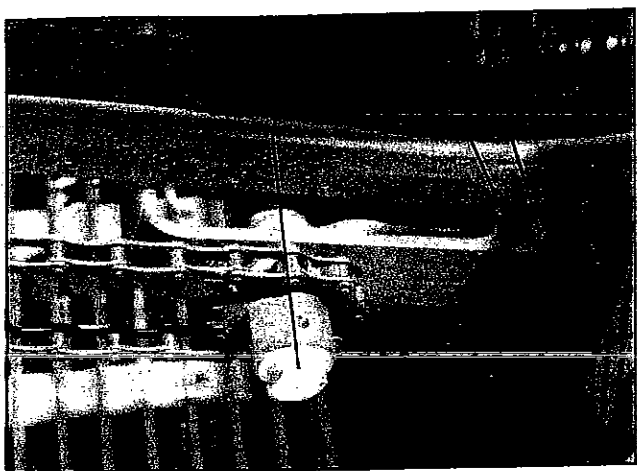

FIGURE 37 - POSITIONING CHAIN TENSIONING
Loosen lock nut (A) (see Figure 37, page 24), idler bolt (B) and turn adjusting nut (C) clockwise to increase chain tension. Adjust both chains equally so the elevator moves in and out easily. Tighten both nuts.